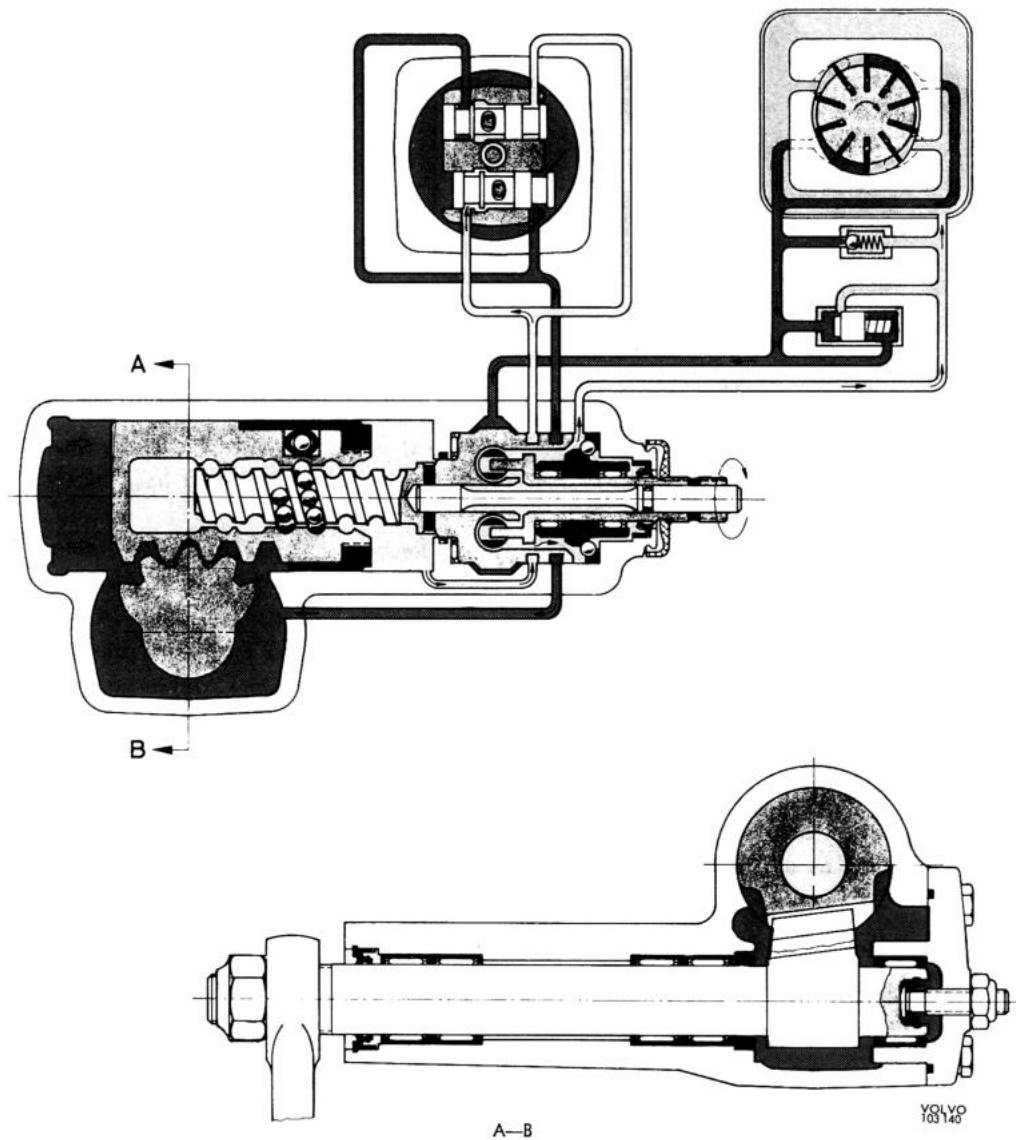

Fig. 6-35. Function, right-hand turn
Turning the steering wheel to the right (see Fig. 6-35) will screw the piston (2) to the right on the figure. The control valve (10) is displaced to the right and permits oil under pressure to pass to the annular groove (18) of the valve housing and from there on to the left-hand side of the cylinder. Oil under pressure also flows to the return groove (7) which, however, is closed so that oil pressure on the left-hand side of the operating piston (2) rises and facilitates the turning of the lever shaft. Oil at the right-hand section of the cylinder is pressed by the piston via the annular groove (19) through the return groove (6) of the control valve (10) back to the oil container (13).
The space in the intermediate piece is oval, see Fig. 6-35. This permits the area between the rotor, the wall of the intermediate piece and two of the vanes to